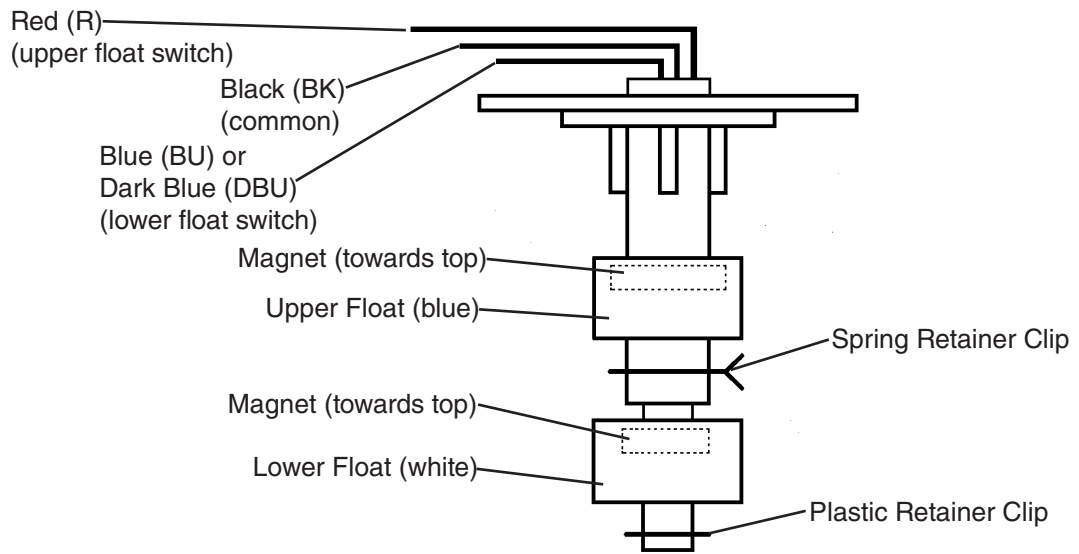

Fig. 5
- 4) Remove the FS molex plug from the control box and check continuity across FS wires. Black (BK) to red (R) for the upper float and black (BK) to blue (BU) or dark blue (DBU) for the lower float. See Fig. 5. With the water reservoir empty, the float switches are open.
- 7) While not necessary, the floats can be removed from the shaft during cleaning. If you remove them, note that the blue float is on top. The floats must be installed with the magnets inside them towards the top of the switch. See Fig. 5. Installing the floats upside down will affect the timing of FS operation.